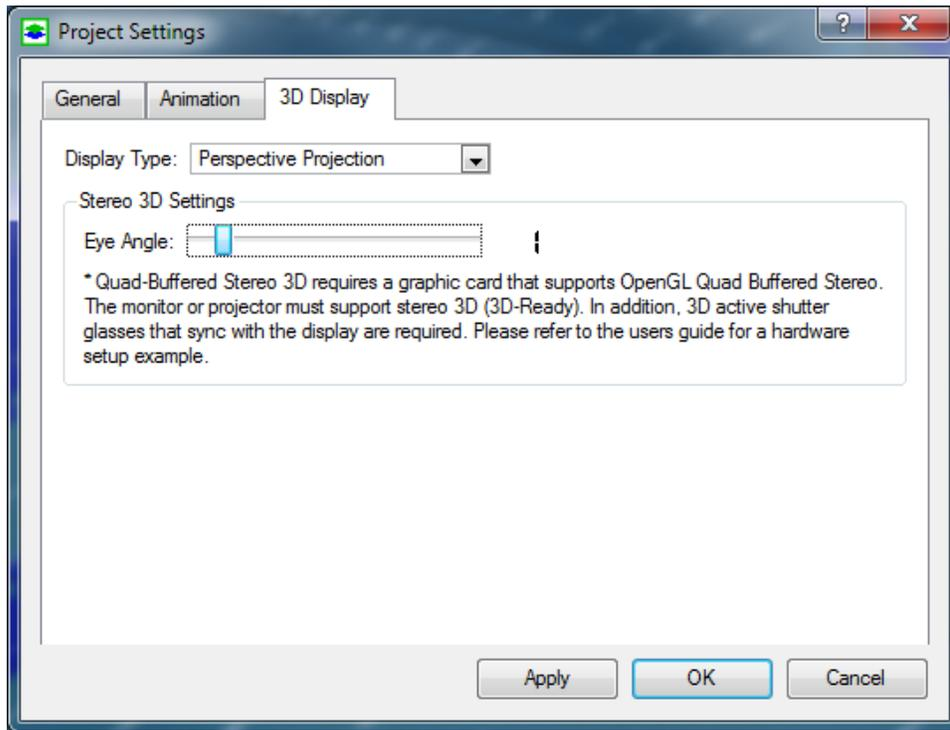

Figure 1.8. The 3D Display tab of the Project Settings dialog box
- *3D Display Tab* (Figure 1.8): This tab contains the *Display Type* dropdown box that controls how the 3D scene is displayed. The default display type is Perspective Projection that mimics how graphical objects look to the human eye in the real world, where objects appear to be smaller when they are further away from the observer. In the second display type, Parallel Projection, an object will always